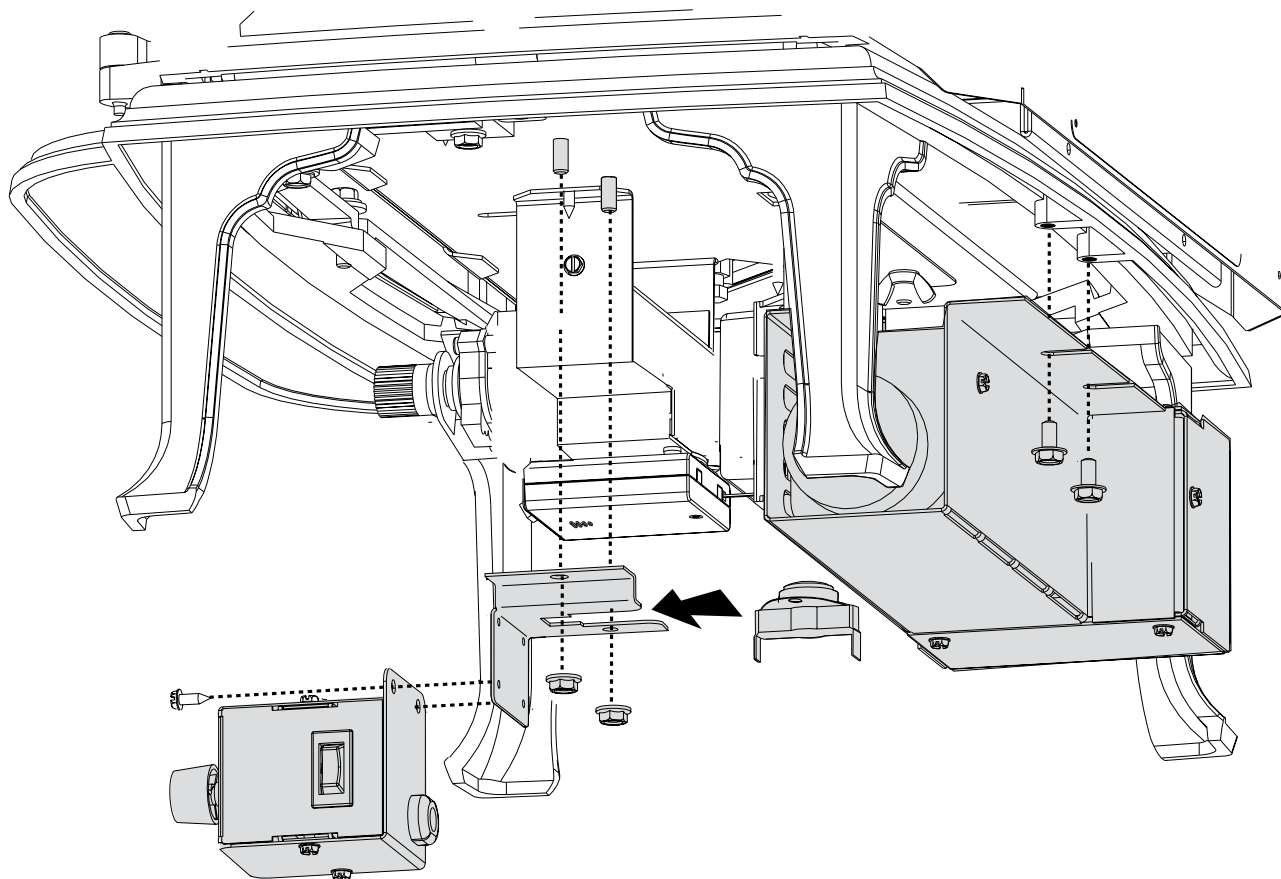

Figure 52. 155631 Blower Kit Components used for GF 200 DV IPI Lillehammer.
3. Attach the Control Box assembly to the studs located underneath the stove in the middle of the firebox floor using two M6 hex nuts and a 10 mm socket driver or wrench. See fig. 52.